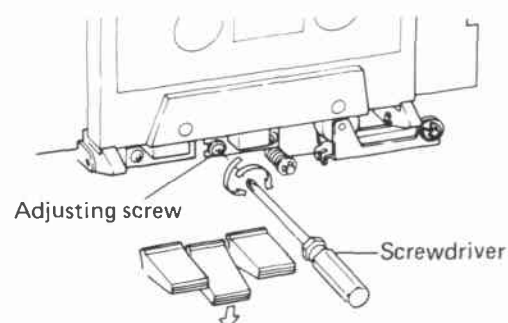

Fig. 27 Head azimuth adjustment
3. Play 10kHz, -20dB of test tape STD-341A, and adjust the head azimuth adjusting screw shown in Fig. 27 to obtain maximum output at both the L and R channels.